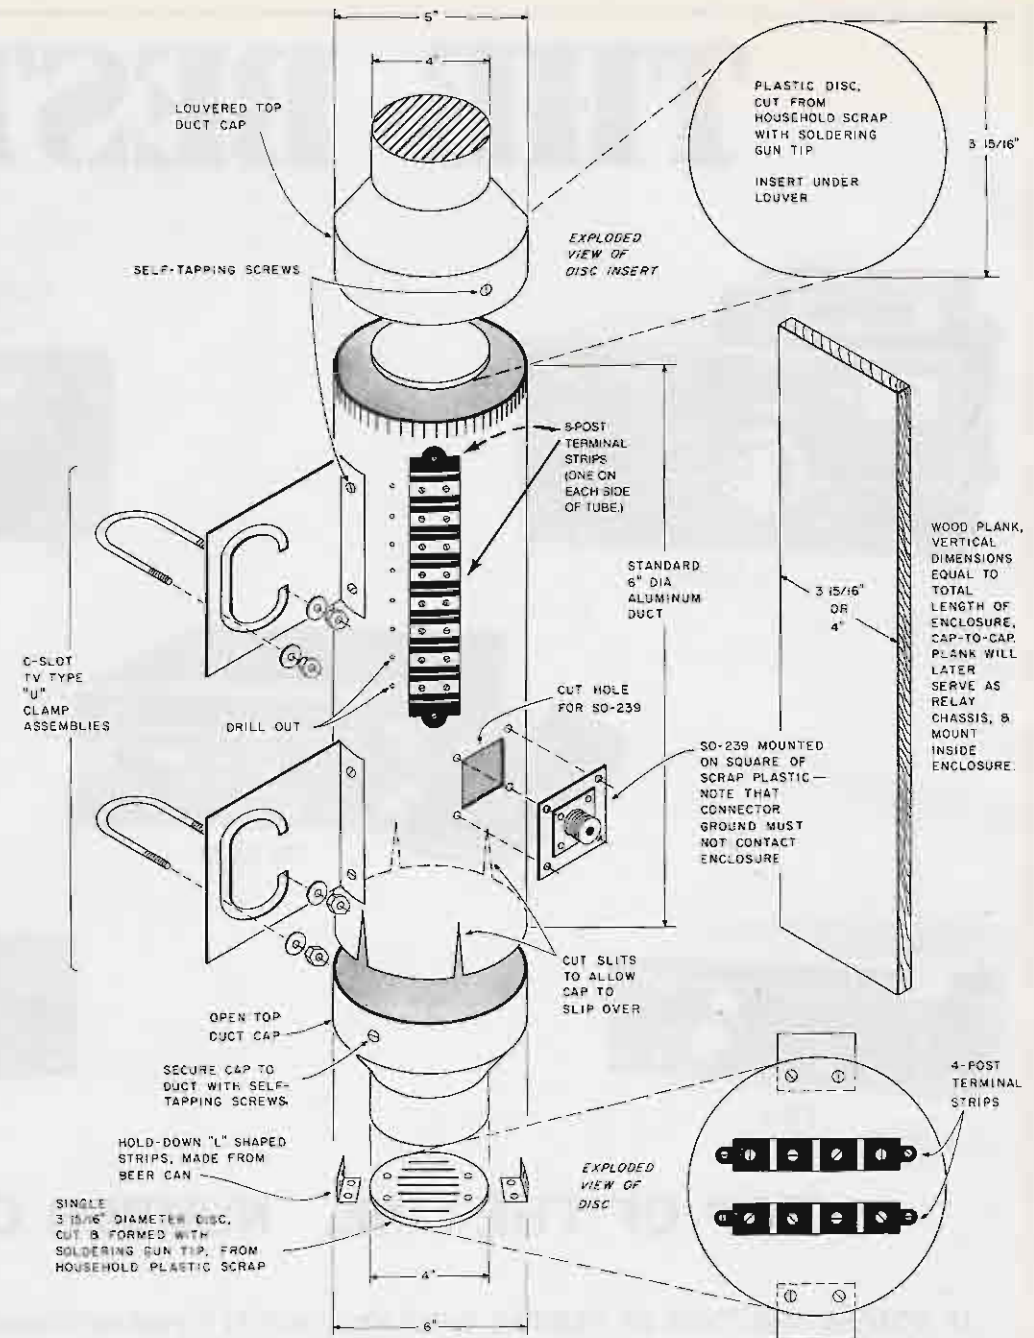

Fig. 4. Detail of the rooftop enclosure, fashioned from standard small-diameter aluminum duct work, available at any hardware store.
3) An open-ended reducing cap, much like the louvered one, which also can be made to fit over the duct tube. (See Fig. 4 for more
They make an unusual U-bolt hardware assembly that is circularly slotted. This means that the U-bolts, which come with the assembly, can be turned in one direction for clamping even though the duct tube runs in another. Perfect! (See Fig. 4 again for some idea of what these things look like.)